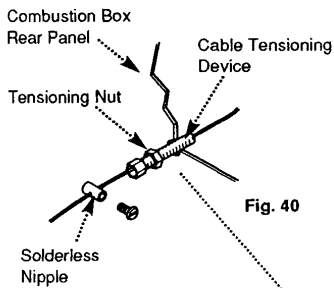

Fig. 40
7. Slacken the cable tensioning nut and remove the solderless nipples from the cables (Fig. 40).